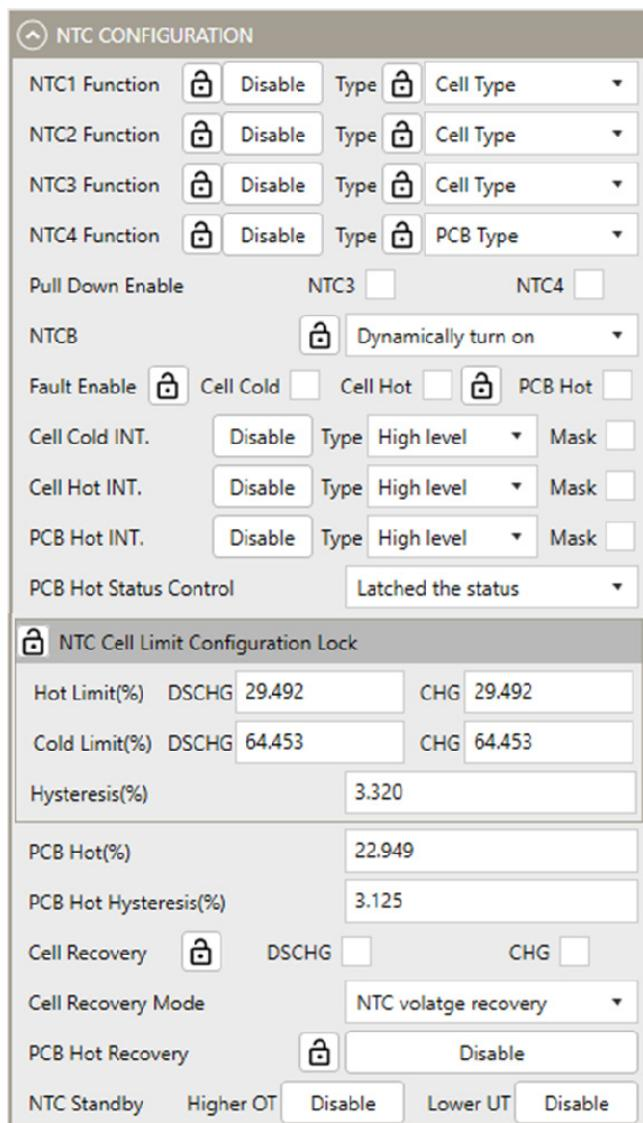

Figure 22: NTC Configuration
18. Configure the NTCs (see Figure 22).